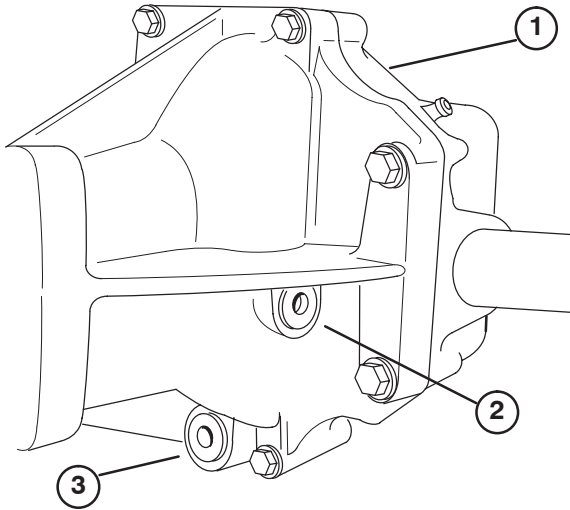

Figure 58
2. Remove drain plug (Fig. 58) from side of reservoir and let hydraulic fluid flow into drain pan.